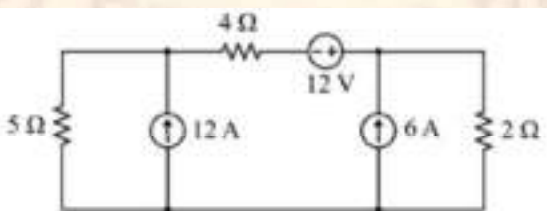

Figure 5
14. For the circuit given in Figure 5, apply the superposition theorem to find the power dissipated in the $5\ \Omega$. (14 marks)